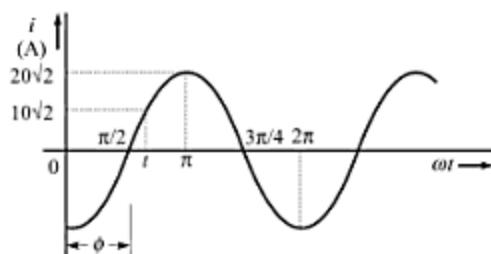

Fig. 9.26
**Solution** The peak value of the current is  $I_m = 20\sqrt{2}$  A. At negative maximum value, we put  $t = 0$ . Hence, the given current waveform should be as shown in Fig. 9.26. This is just a sine wave with a phase lag of  $\phi = \pi/2$ . Hence, the equation of the current should be  $i = 20\sqrt{2}\sin(100\pi t - \pi/2)$  A. Therefore, the required time is given by